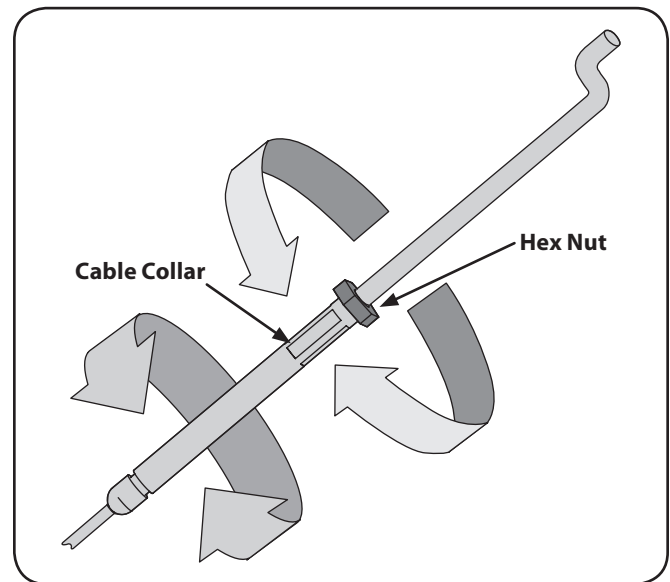

Figure 6-1
2. Adjust the forward clutch cable by loosening the hex nut. See Fig. 6-1.
3. Turn the cable collar section one or two turns to increase or decrease tension on the cable. See Fig. 6-1.
4. Retighten the lock nut against the cable collar. See Fig. 6-1.